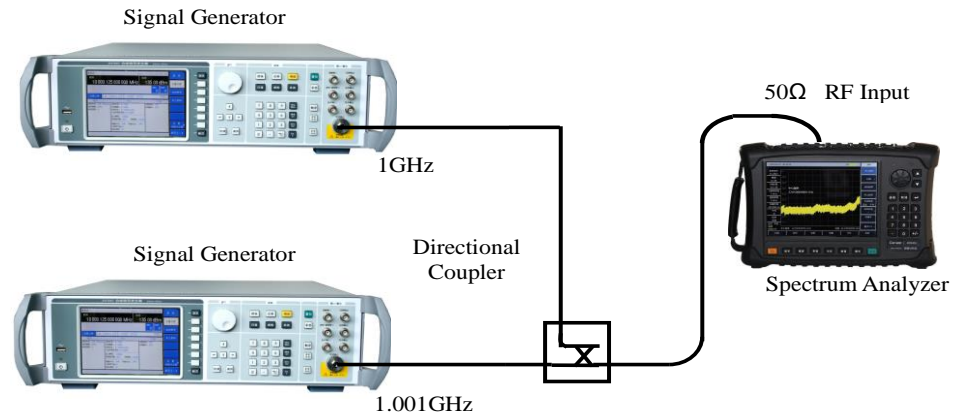

Figure 5-5 Connecting TOI Measurement System
a) Connect the tested instrument with the spectrum analyzer as shown in Figure 5-5: